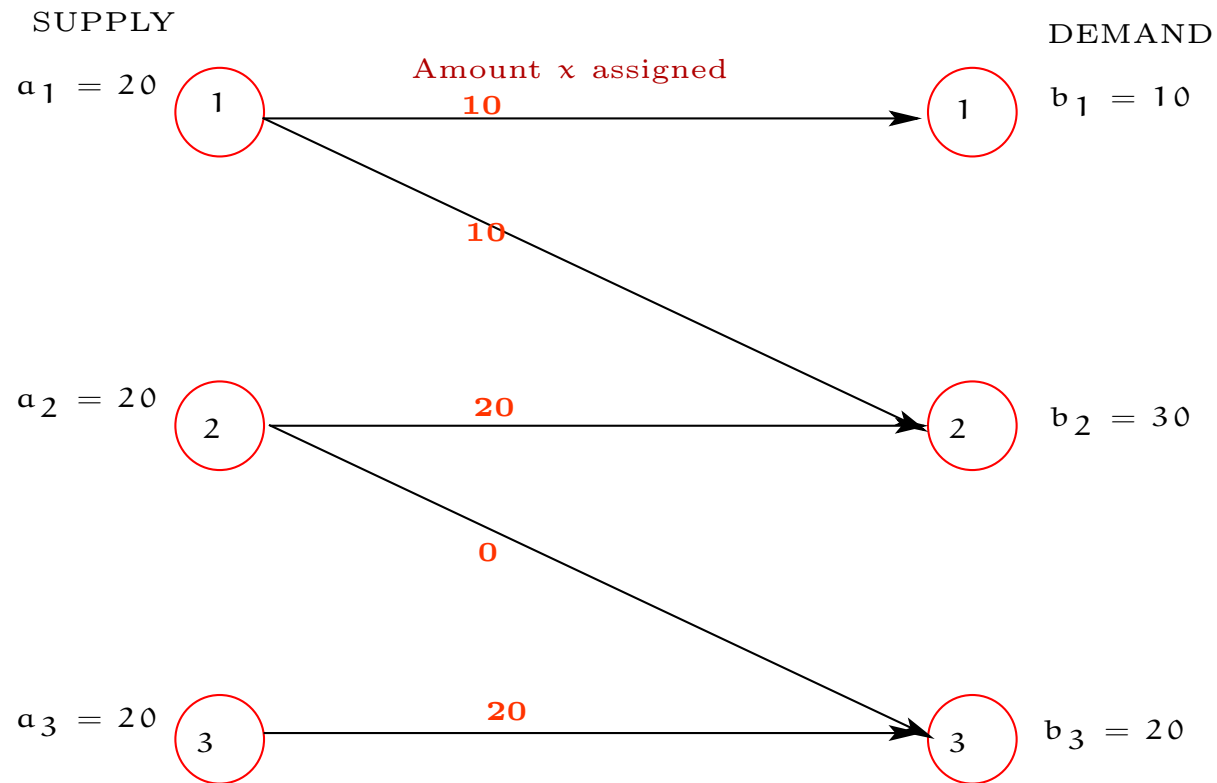

Figure 6: Sub-network showing feasible solution found with NWCR.
- I can show the feasible solution found with the NWC Rule in Fig. 6.